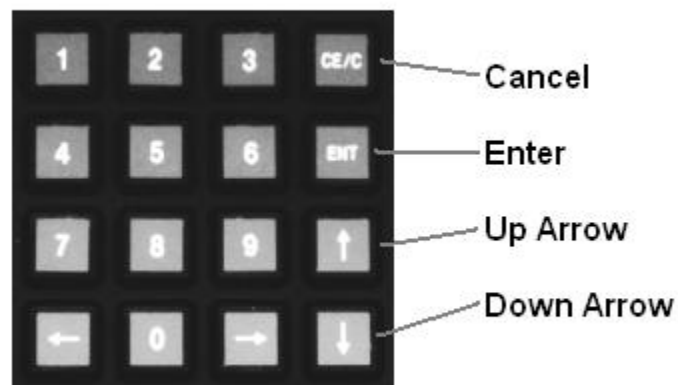

Figure 4.1. Keypad Interface
The keypad is the only means of user input to the AOG without the use of a remote terminal. Of the 16 keys on the keypad, only four are used to navigate the menu structure: (1) the cancel key, (2) the enter key, (3) the up-arrow key and (4) the down-arrow key. Figure 4.1 illustrates the keypad layout and indicates these primary keys. The number keys are only used for numeric entry on command entry screens.